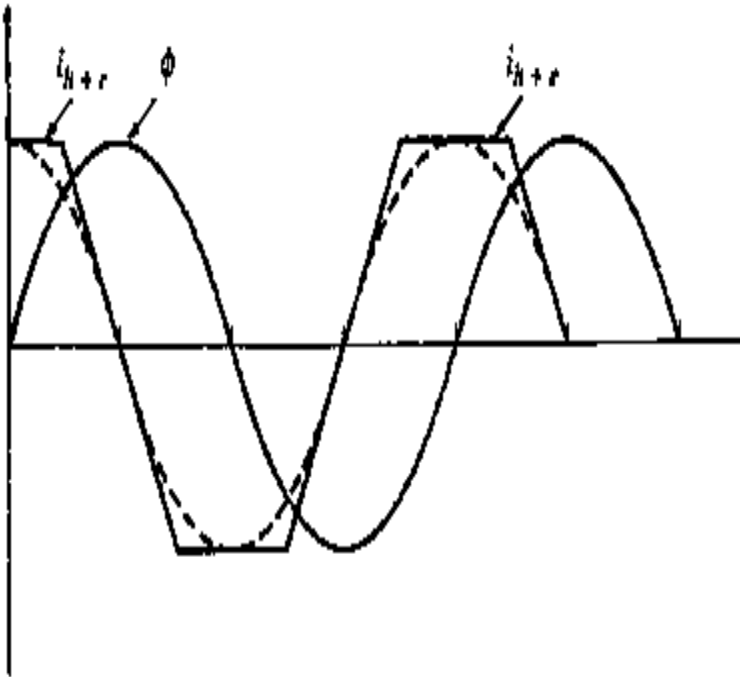
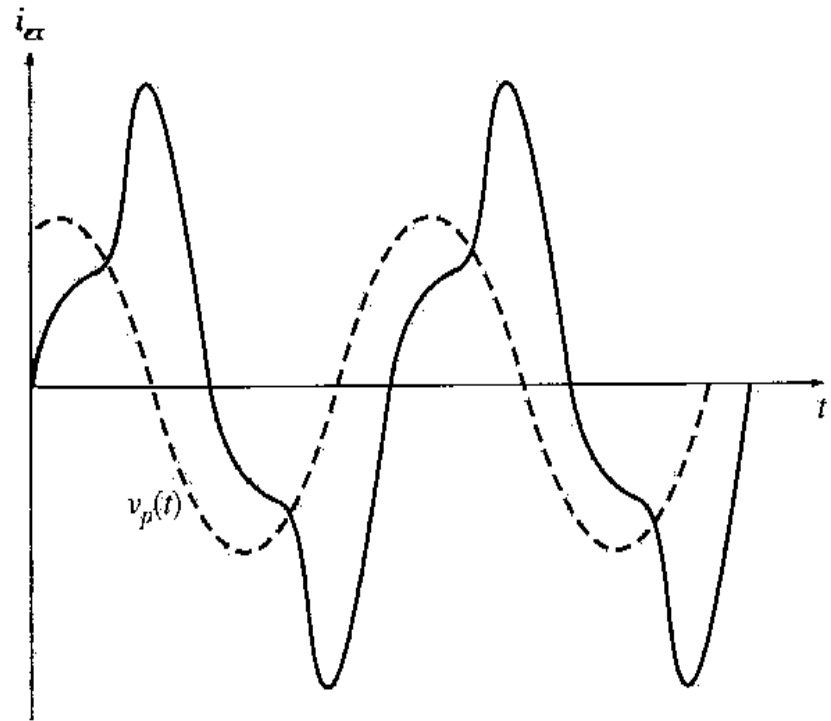

Fig 1
Fig 2
- Eddy and hysteresis loss shown in Fig 1 and the total current required to produce flux in the core shown in Fig 2